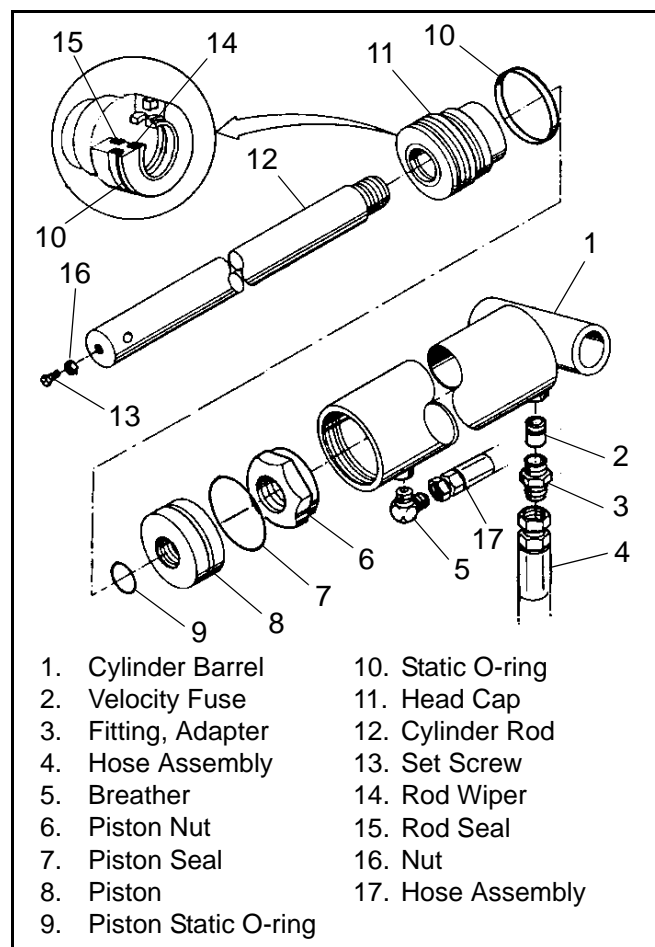

Figure 0-6: Lift Cylinder Assembly
0.5 LIFT CYLINDER (FIGURE 0-6)